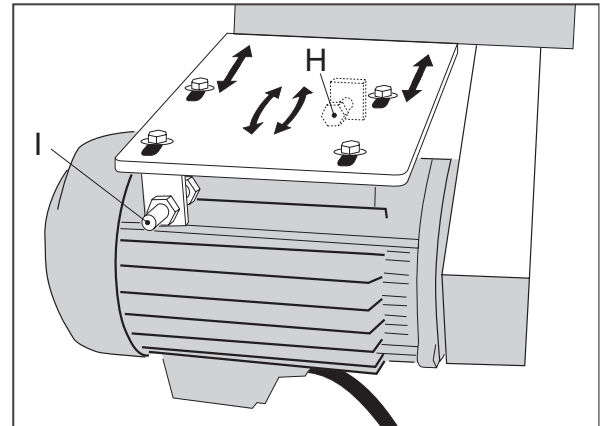

Fig. 15
- To tighten v-belts, first loosen motor mounting screws. Screw **H** changes belt tension and screw **I** alters the angle of the motor in relation to the V-belts. *See Fig. 15.*